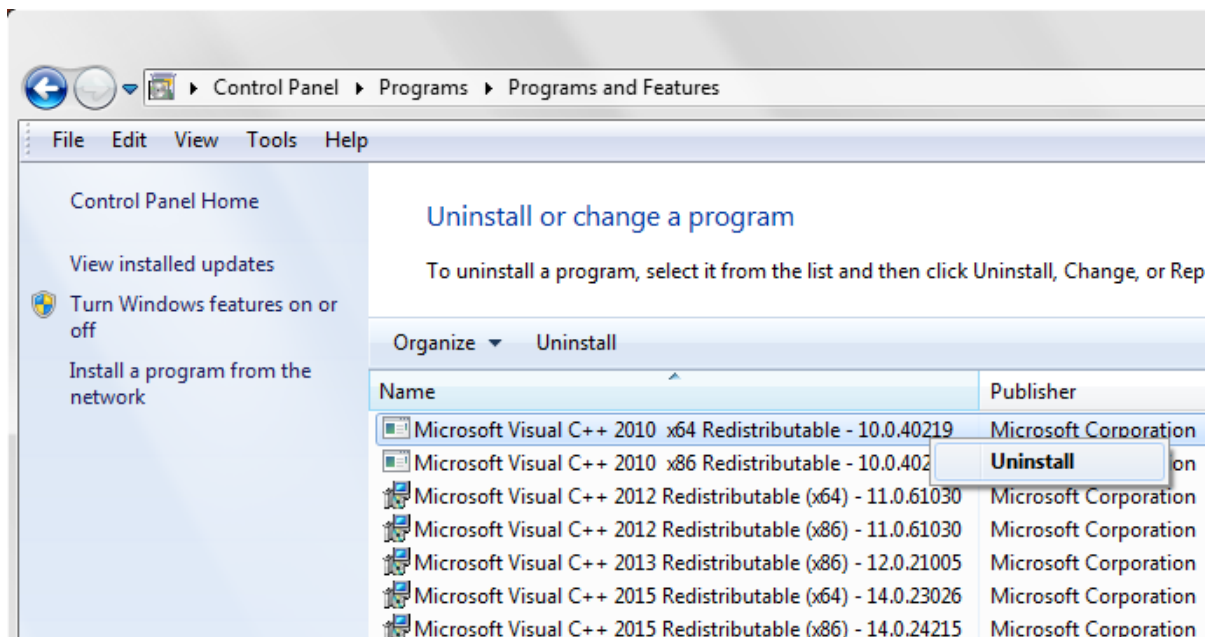

Figure III.1.4: Select Microsoft Visual C++ 2010 x64 Redistributables - 10.0.40219.
- If present, right-click on Microsoft Visual C++ 2010 x64 Redistributables - 10.0.40219 and click on uninstall. See Figure III.1.4.